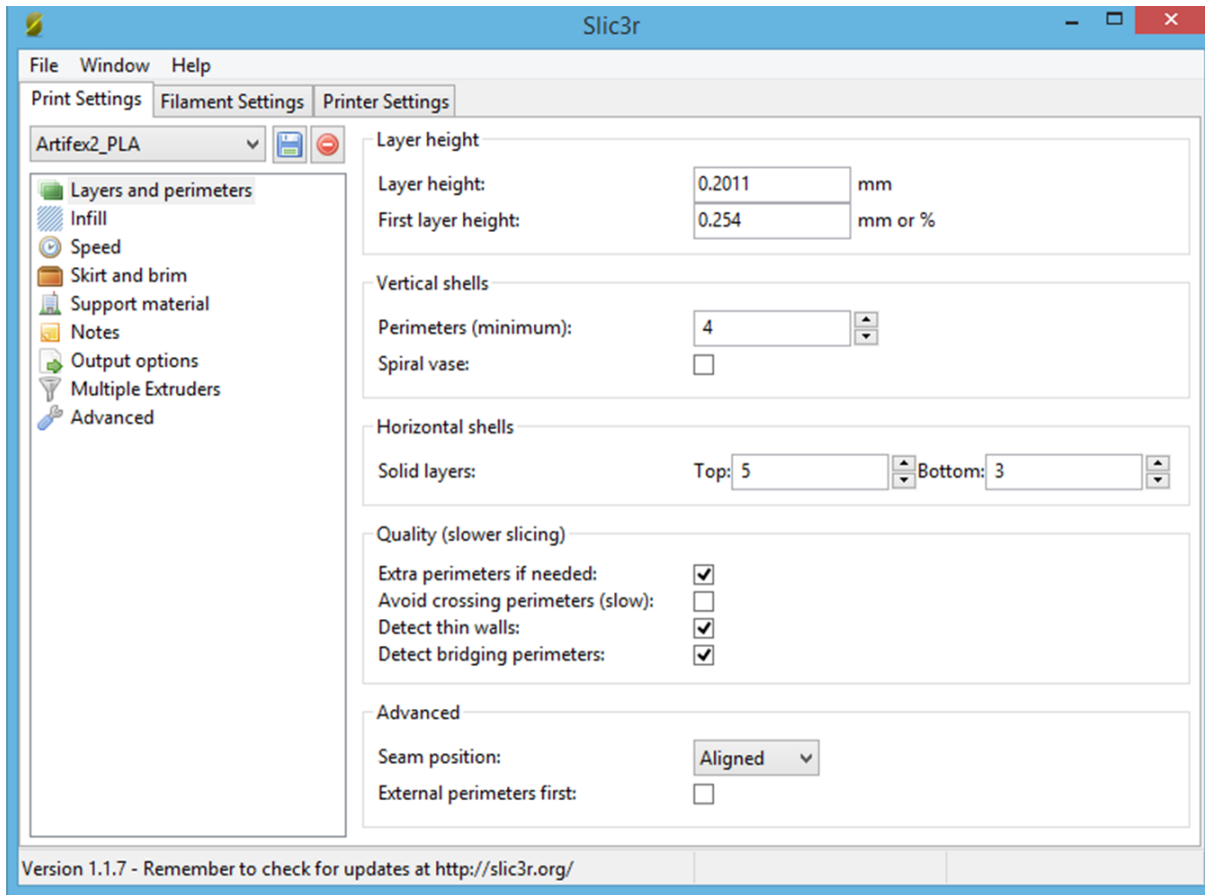

Figure 3.3: Slic3r program window
- Click the “Configuration” button, and a separate window will pop up showing the Slic3r program (Figure 3.3).